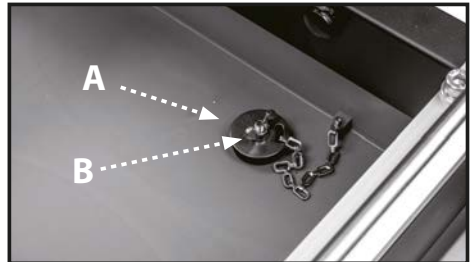

FIGURE 15
1. Ensure the drain plug (A, Fig. 15) is securely inserted into the drain and the locking wing nut (B, Fig. 15) is tight.